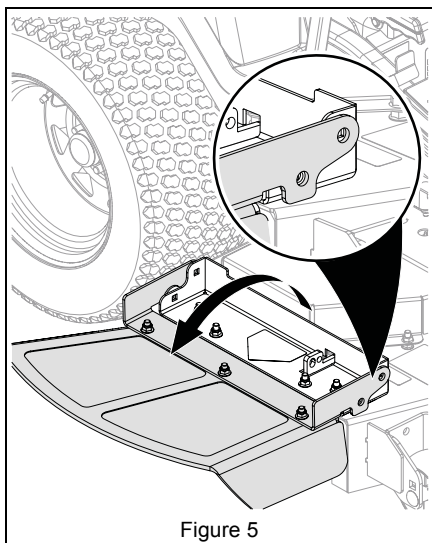

Figure 5
8. Place the discharge chute in the operating position. Ensure holes are aligned. See Figure 5.